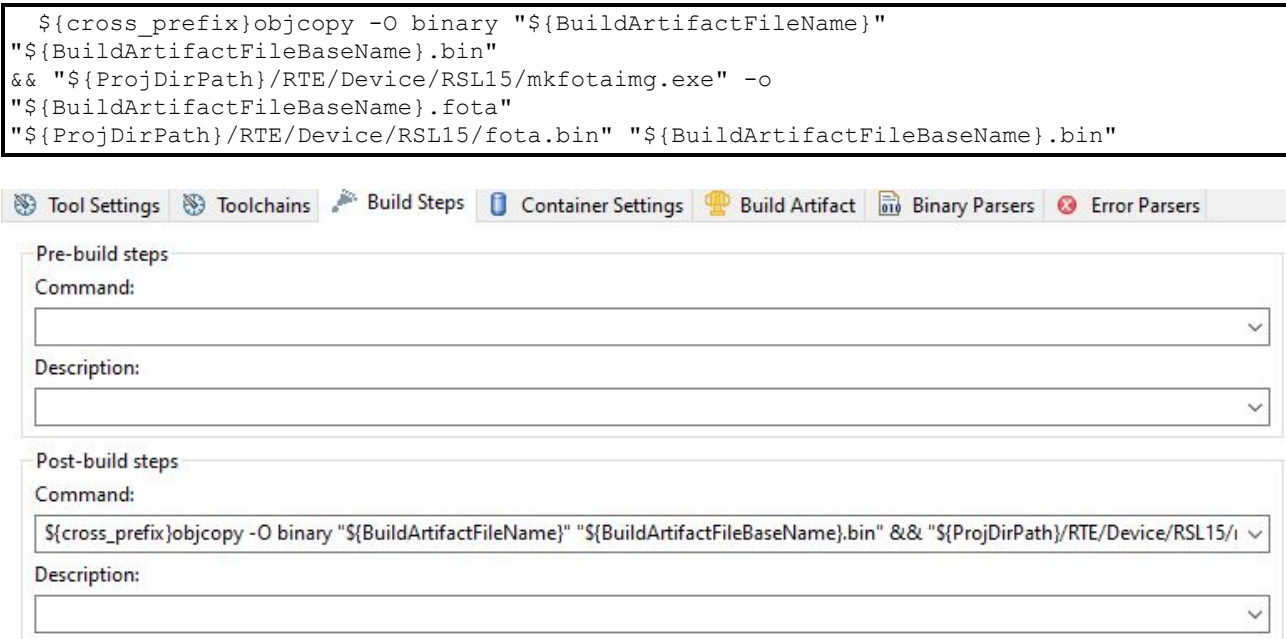

Figure 18. Post-Build Steps
- Modify the project post-build steps (see the "Post-Build Steps" figure (Figure 18)) to generate the FOTA image in both Debug and Release build configurations, by going to **Project > Properties > C/C++ Build > Settings > Build Steps > Post-build steps**. Two steps are required to generate the *.fota* image. First, we need to generate the application sub-image *.bin* file using *objcopy*. Then, we use the *mkfotaimg.exe* tool to generate the FOTA image (*.fota* file). Both commands can be concatenated with `&&` and added to the post-build steps as in the example that follows. To use this command, copy the code from the **Post-Build steps** of the existing sample application *ble_peripheral_server_fota*, as the code in the text below is not directly copyable.